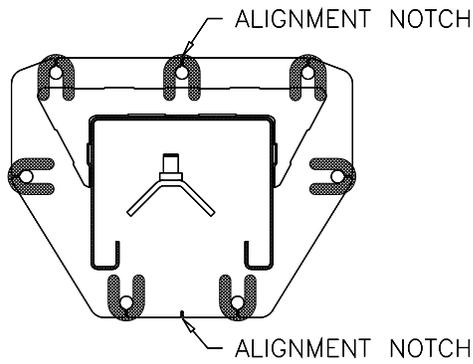

Fig. 5 – Column Shimming
- 14) Shim both columns to plumb using the shims provided as shown in Fig 5. DO NOT shim more than 1/2" at any given point. Use a level no less than 24" in length to plumb columns.
- 18) Check idler column shimming. Use additional shims (see Fig. 5) to remove any gaps that may have been created while installing overhead beam. Tighten anchor bolts and recheck column for plumb. Torque to 150 foot pounds.
- 22) At the top of each column extension assemble a 3/8-16 x 3" Lg bolt with (2) 3/8-16 flange nut at each sheave location, Fig 5.